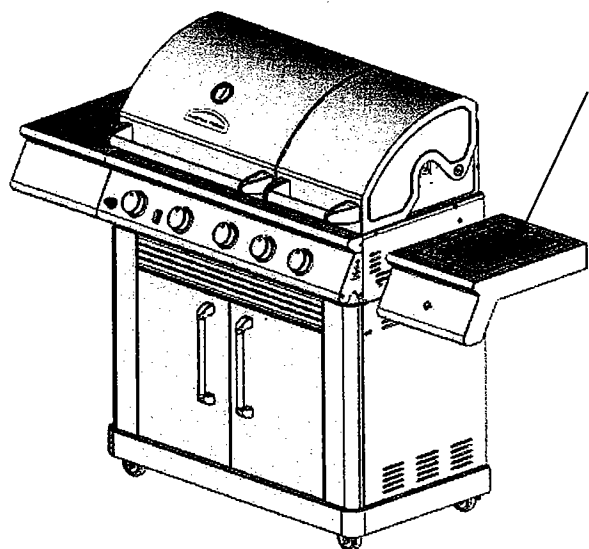
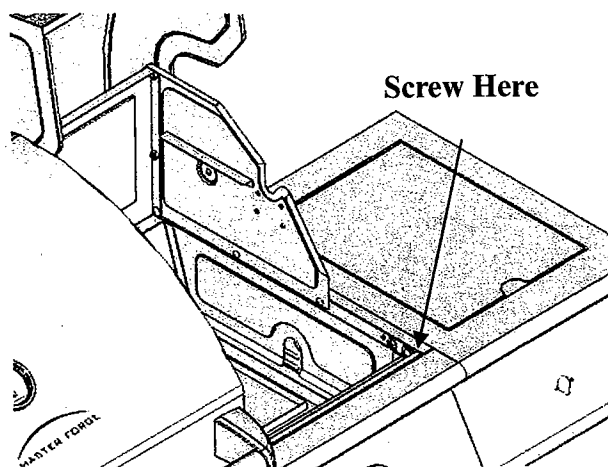

Fig. 26
Fig. 27
- b. Align the side shelf holes (Fig. 25) with the two screws in burner box side panel and the one in the control box side panel, and push the shelf down to lock it in place. Then open the hood and use the 1/4-20 x 1 1/8-in (G) screw to fasten the side cooker shelf (J) from inside the burner box. Refer to Fig. 26 & Fig. 27. Then tighten the three screws loosened previously.